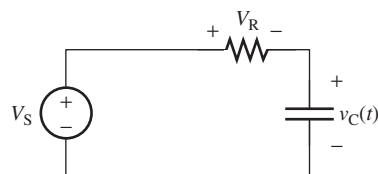

FIGURE P5.9 Circuit for Problem 5.9.
- 5.9 (H) Given the circuit shown in Figure P5.9, find v_R in terms of R , C , and V_S .